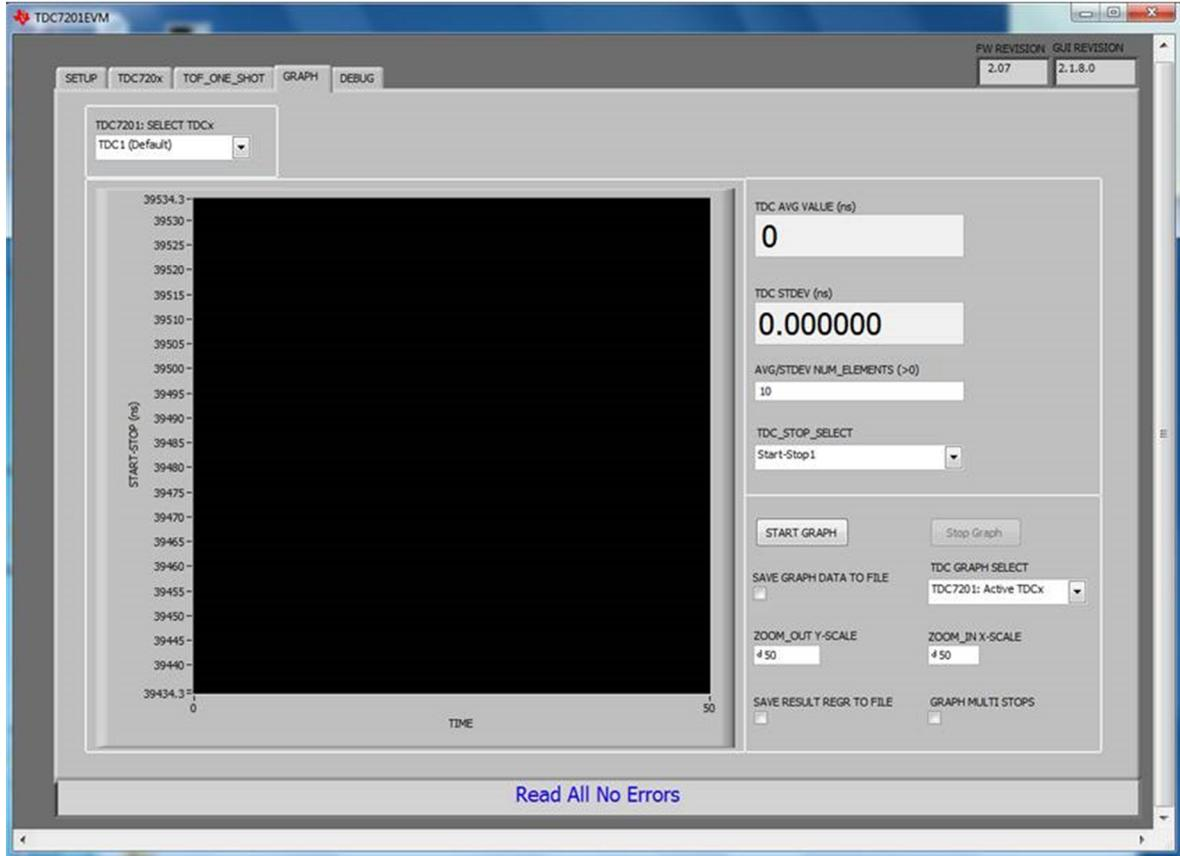

Figure 4. TDC720xEVM GUI
4. GUI should automatically connect and show the screen depicted in Figure 4.
2. Disconnect USB-to-SMA cable connection to STOP\_EXT1 (J4). Instead, reconnect channel 2 of the dual function generator to TDC7201EVM's STOP\_EXT2 connector (J7). See Figure 4.